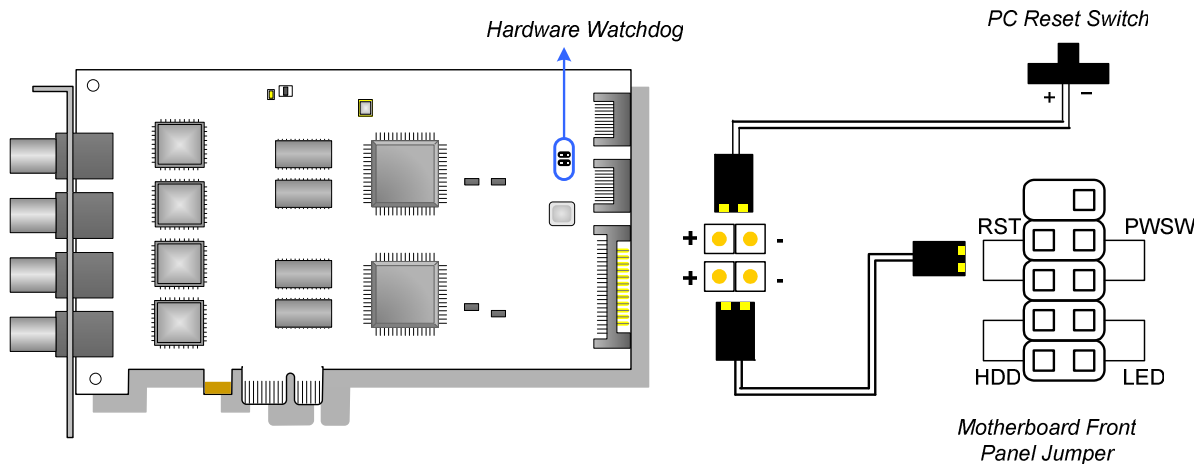

Figure 1-2
- Connect the supplied Hardware Watchdog Jump Wire (Figure 1-2).